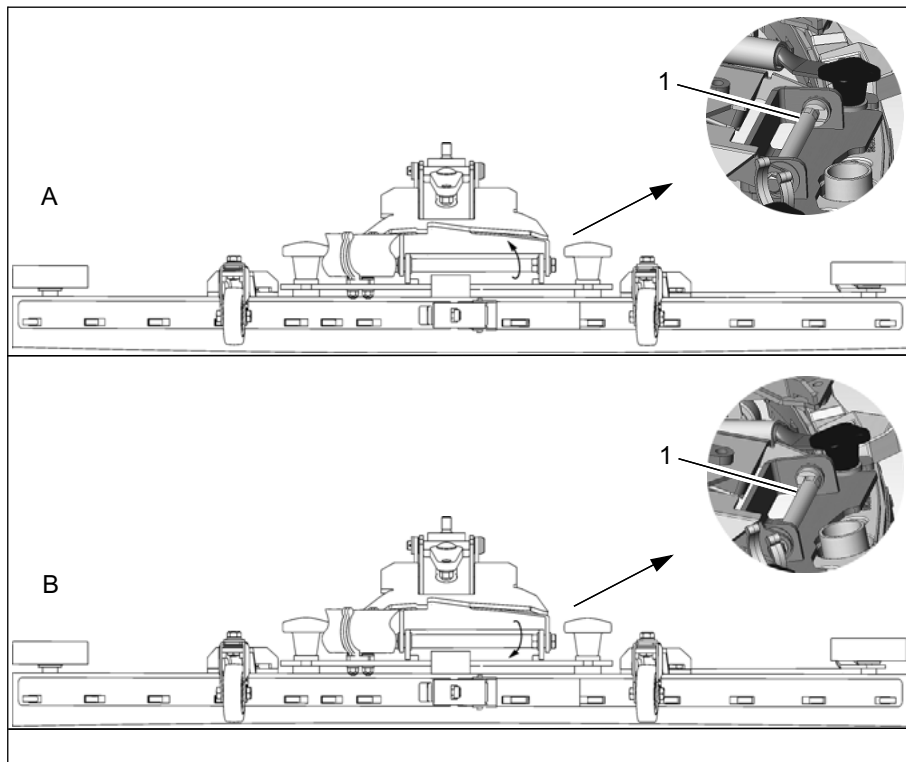

Fig.11
2. Loosen the screws on the eccentric wheel (Fig. 11/1) and adjust the squeegee using the eccentric wheel (SW13) so that the ends of the sealing strips still have contact with the floor.